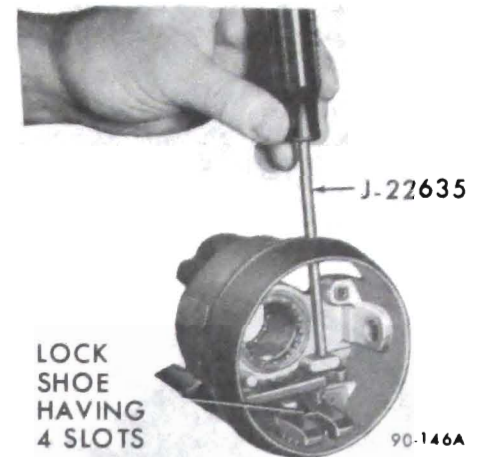

Figure 90-147 - Removing Release Pin
5. Remove lock shoe pin with Tool J-22635 and hammer. Remove lock shoes and lock shoe springs. See Figure 90-147.